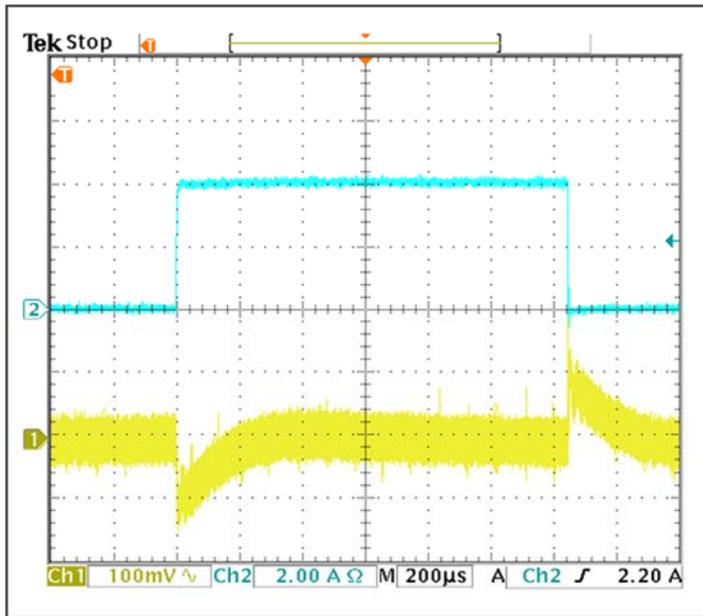

Figure 4. Transient response when load steps from 5mA to 4A.
**Figure 4** displays the load transient response when the load is stepped from 5mA to 4A, and then dropped back to 5mA again. The output transient spike is about 120mV. The input is 24V.